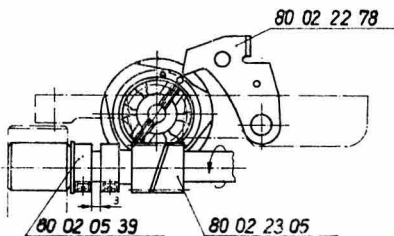

fig. 3
- 2.3. The central control system is inserted taking care that the rear feeler lever will show towards the circular marking "o" (see fig. 3) at the front side of the cam package. If the gear teeth of worm – worm gear will not get into mesh in this position a slight deviation of the circular marking in both directions towards the feeler lever will be permitted for an intermeshing of the teeth.